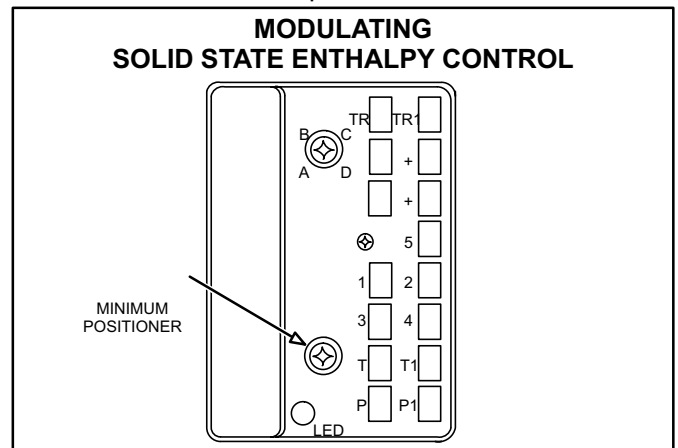

FIGURE 29
- 4 -Install jumper across enthalpy control terminals T and T1. See figure 29 for location.